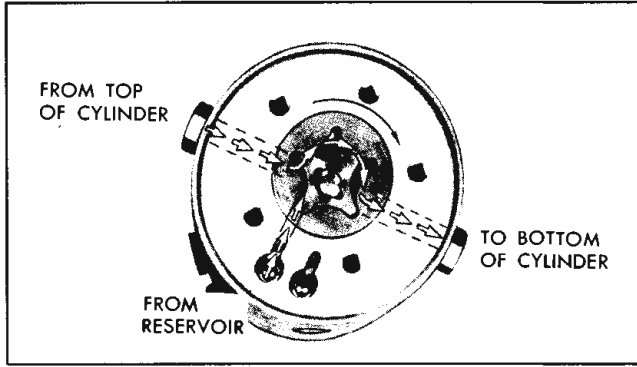

Fig. 22-61 Pump Operation-Raise Top
1. Raising the Top. When the red motor lead is energized the motor drive shaft turns the rotors clockwise as indicated by the large arrow in Fig. 22-61. The action of the pump rotors forces the fluid under pressure to the bottom of each cylinder forcing the piston upward. This action causes the fluid above the piston in each cylinder to be forced into the pump, which recirculates the fluid to the bottom of the cylinders. The additional fluid required to fill the cylinder due to piston rod displacement is drawn from the reservoir.